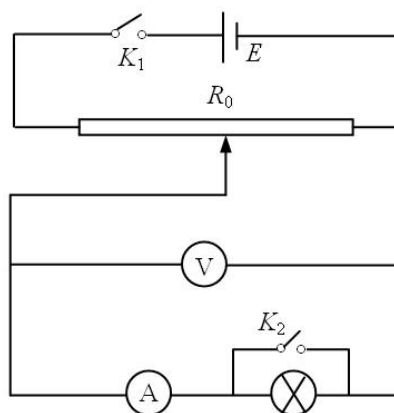

Figure 5-3-3 Circuit for the V-I characteristic of light bulb
As stated before, it is necessary to correct the systematic error using the circuit as shown in Fig. 5-3-3. As shown in Fig. 5-3-3, when the switch K_2 is open, the voltmeter will read the total voltage of light and ammeter, then we can get a V-I relationship of ammeter and light. However, it will record the voltage of ammeter when K_2 is closed. In this case, the V-I relationship of ammeter can be obtained.
1. Connect the circuit as shown in Fig. 5-3-3. Make sure the slide rheostat on the safety position. The output voltage of DC supply is around 10.0 V.